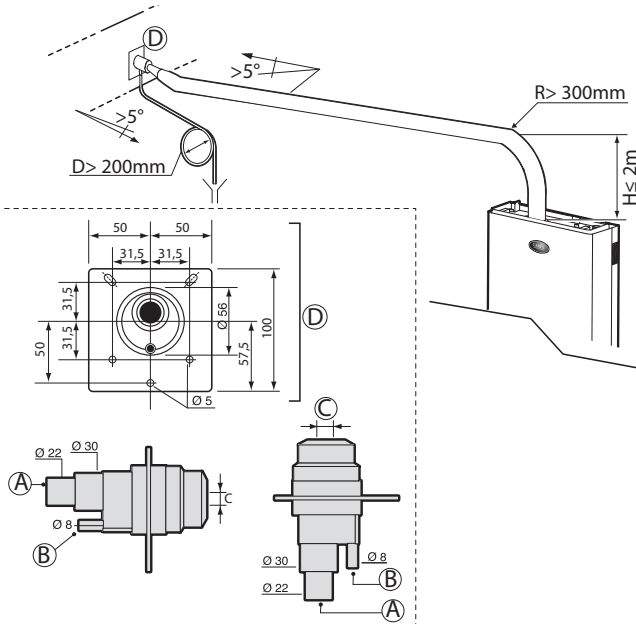

Fig. 3.b
- Make the connections in accordance with the specifications as shown in Fig. 3.b.